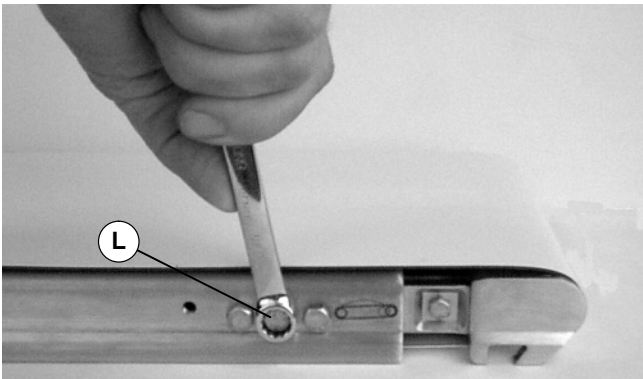

Figure 13
2. With pinion gear engaged, place a 10 mm wrench on lock screw (L of Figure 13).